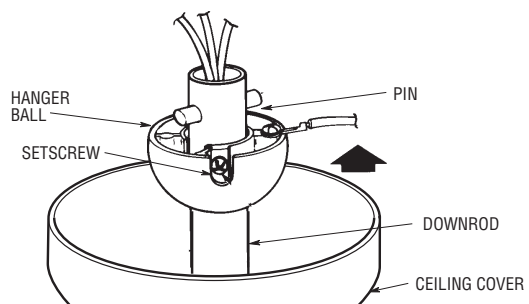

Figure 4
5. Place the ceiling cover over the downrod, making sure that the large opening faces upward (Figure 4).
6. Reinstall the hanger ball (Figure 4) on the downrod as follows. Route the three 80" motor leads through the hanger ball. Position the pin through the two holes in the downrod and align the hanger ball so the pin is captured in the groove in the top of the hanger ball. Pull the hanger ball up tight against the pin and securely tighten the setscrew in the hanger ball. A loose setscrew could create fan wobble.